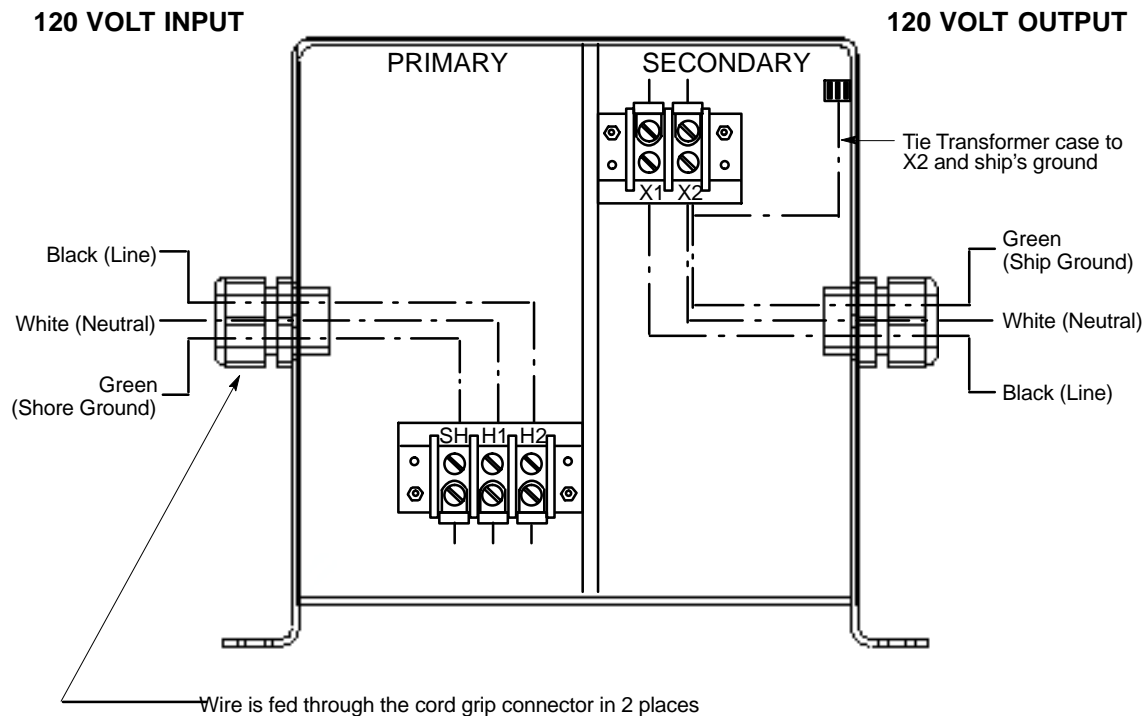
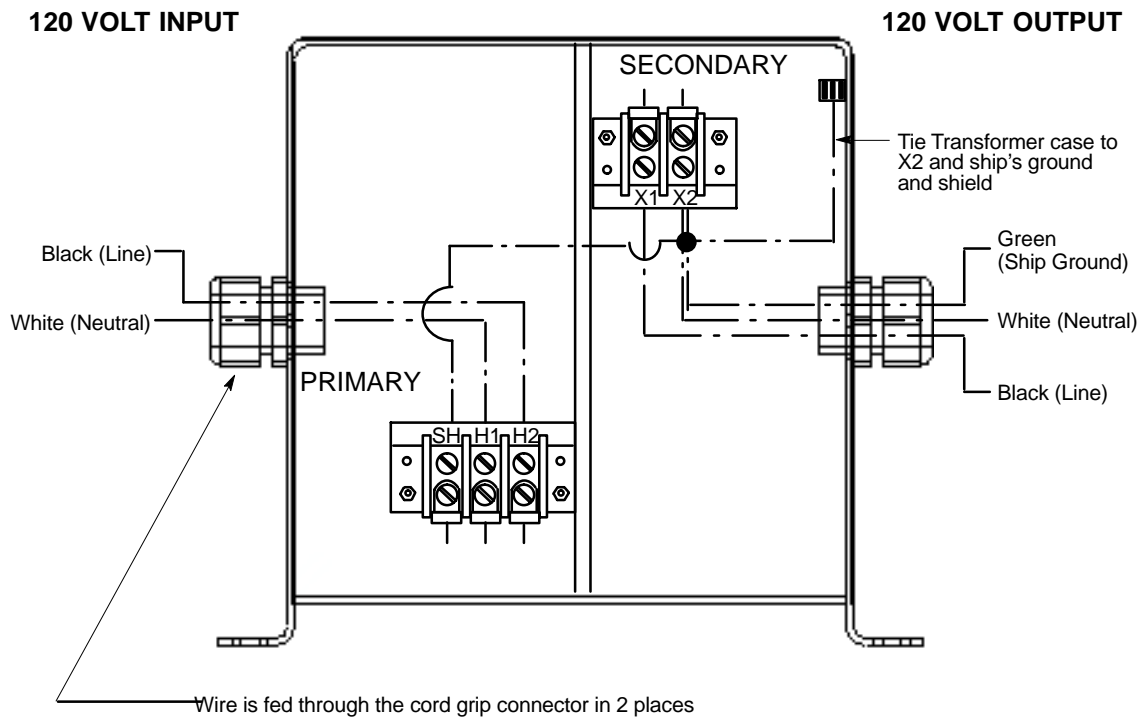

Figure 4. Terminal Placement – Method 1 (See Figure 2 for Electrical Diagram)
Figure 5. Terminal Placement – Method 2 (See Figure 3 for Electrical Diagram)
8.	Connect all wiring as shown in Figure 4 or Figure 5 based on the chosen wiring method